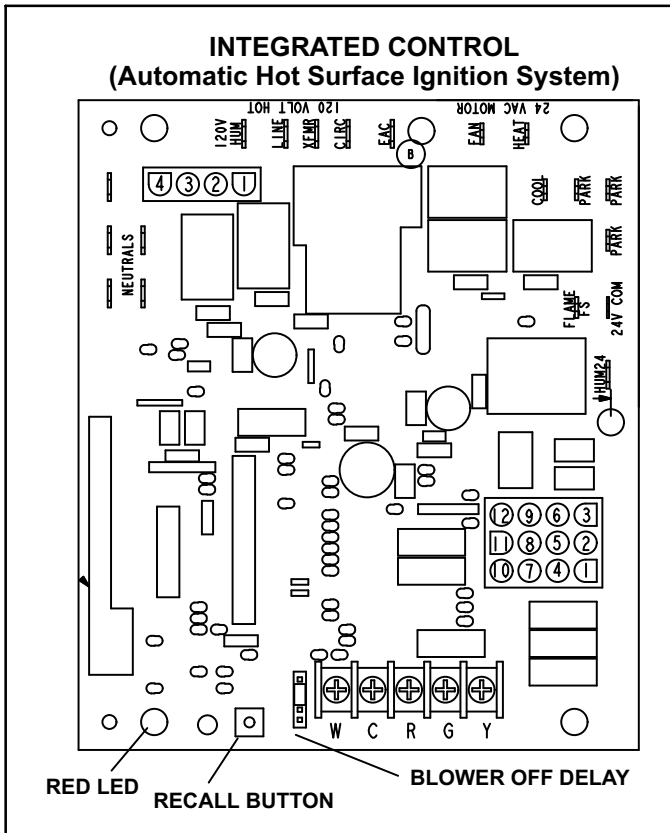
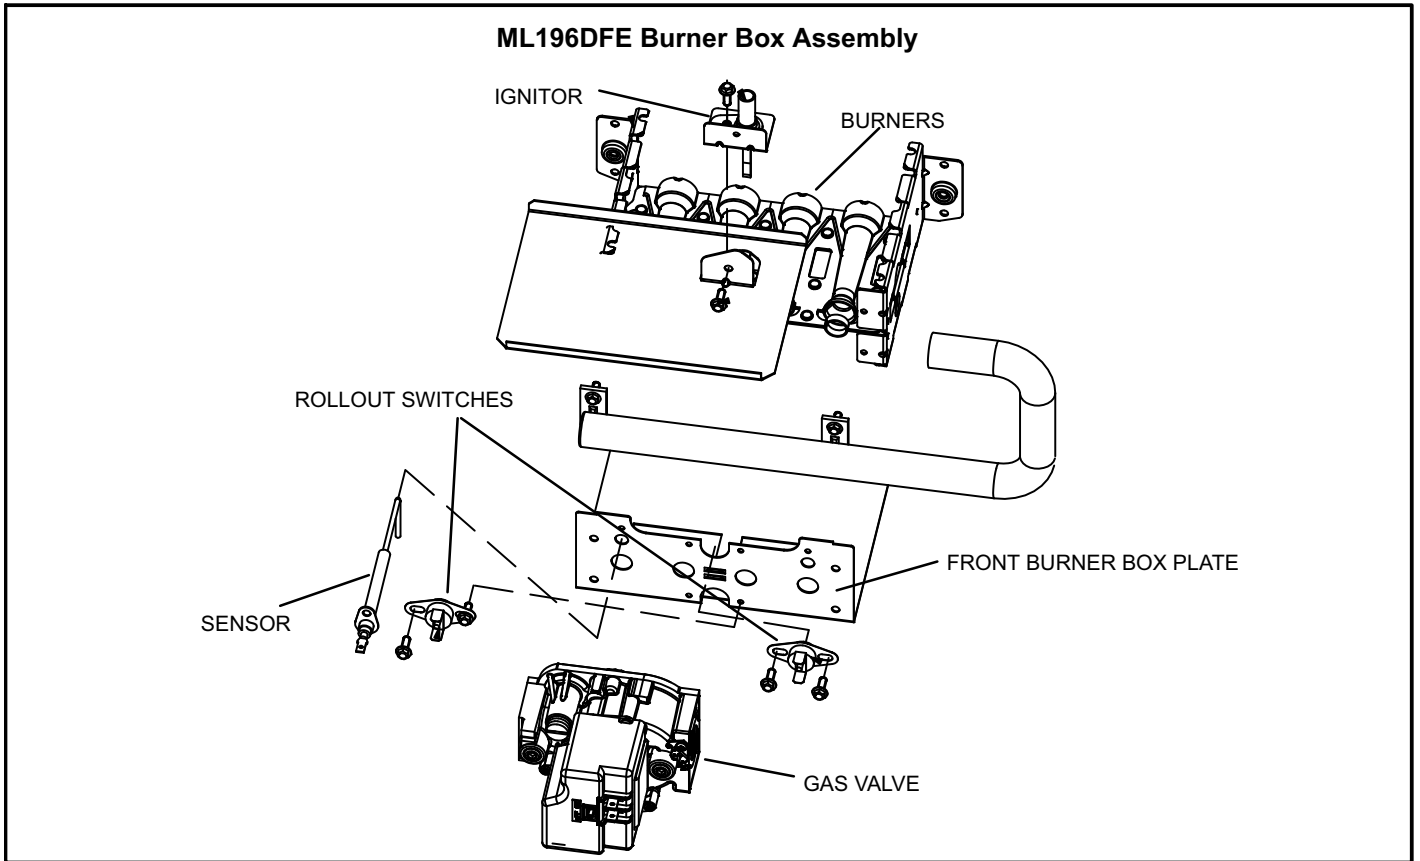

FIGURE 3
FIGURE 5
The hot surface ignition control system consisting of an integrated control (figure 3 with control terminal designations in tables 1, 2 and 3), sensor and ignitor (figure 5). The integrated control and ignitor work in combination to ensure furnace ignition and ignitor durability. The integrated control, controls all major furnace operations. The integrated control also features a RED LED for troubleshooting and two accessory terminals rated at (1) one amp. See table 4 for troubleshooting diagnostic codes. The nitride ignitor is made from a non-porous, high strength proprietary ceramic material that provides long life and trouble free maintenance.
1. Flame Rollout Switches (Figure 5)
5. Flame Sensor (Figure 5)
6. Ignitor (Figure 5)